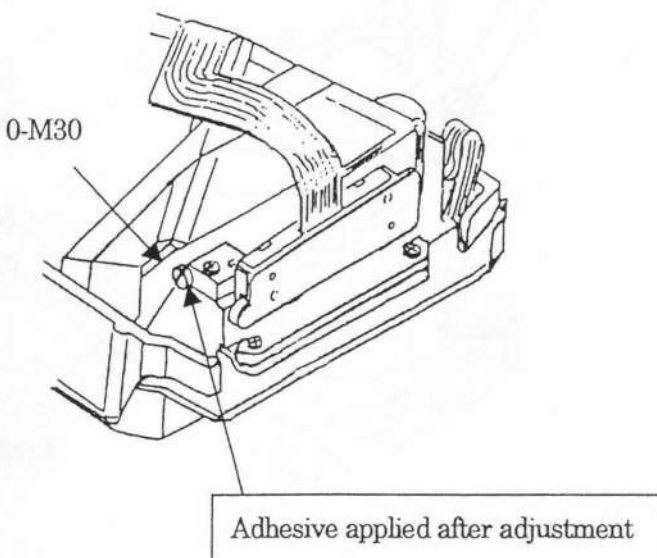

Fig. 18
- (1) Fit AE Pentaprism Finder 67II to the 67II camera.
- (2) Turn power on to the body and half-press shutter button to turn on LCD display in the viewfinder.
- (3) Turn 0-M30 with a screwdriver and find out for position in which LCD display is not lost. (Fig. 18)
- (4) After adjustment, apply adhesive and check again after drying.